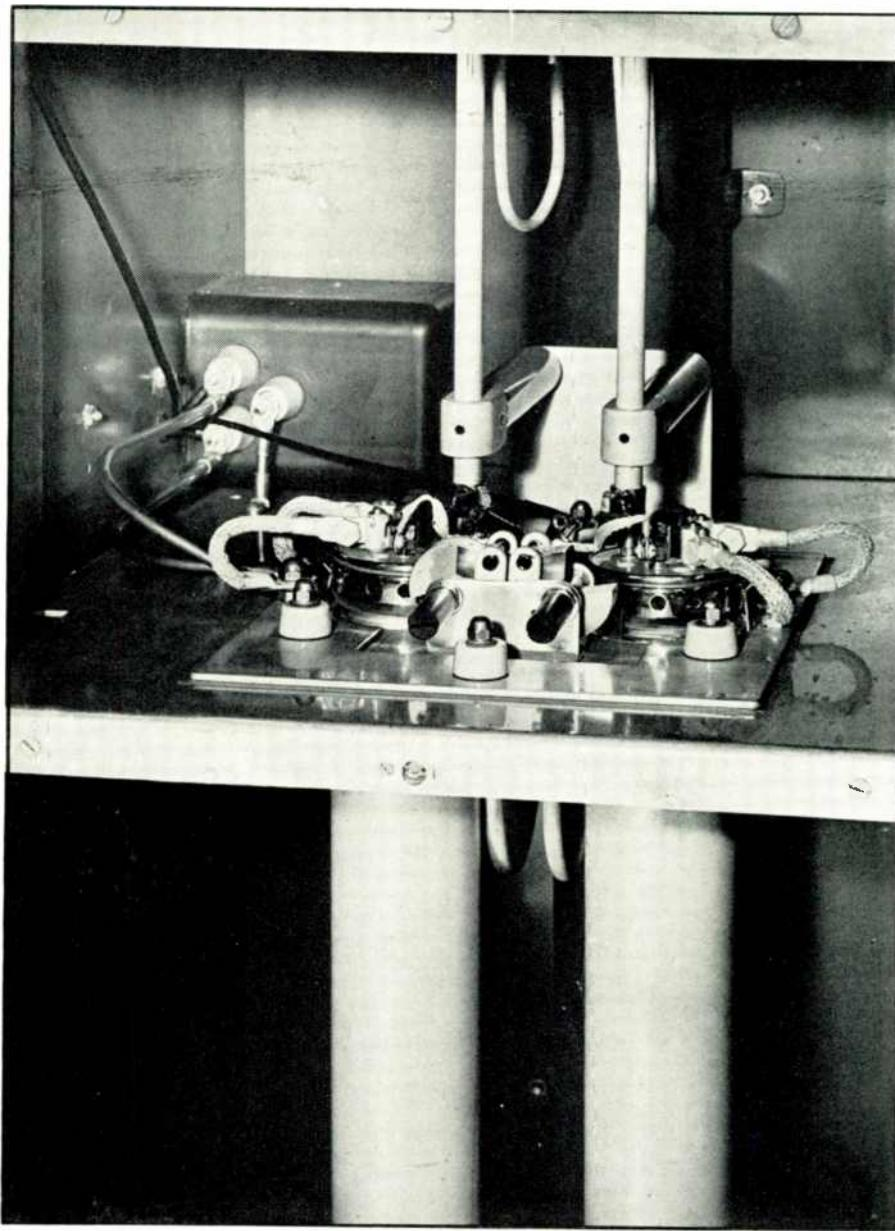

FIG. 12. TWO EIMAC 4X-500A TUBES ARE USED IN THE 1-KW. FM TRANSMITTER
* Fig. 12 is a close-up of the power amplifier stage of the 1-kw. transmitter, showing the two Eimac 4X-500A tubes inserted in the plate lines for cooling purposes. The grid lines rise above the tubes, while behind these is the coupling loop for output measurement.